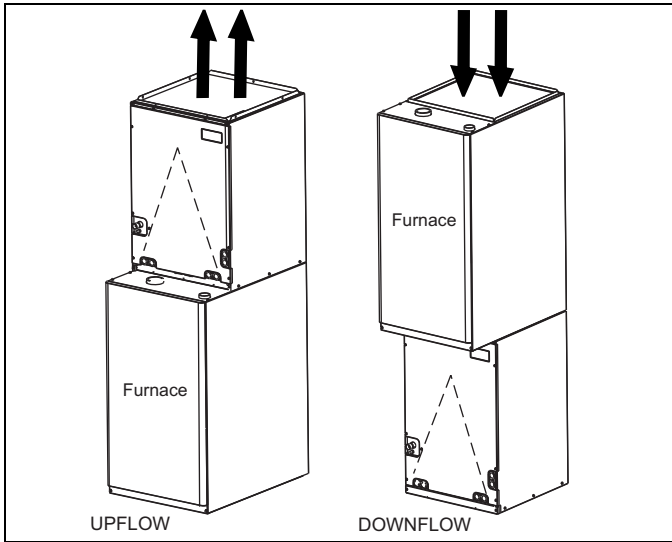

FIGURE 6: Vertical Applications with Furnaces
2. Position the coil on the furnace opening (or the furnace on the coil for downflow) as shown in Figure 6.